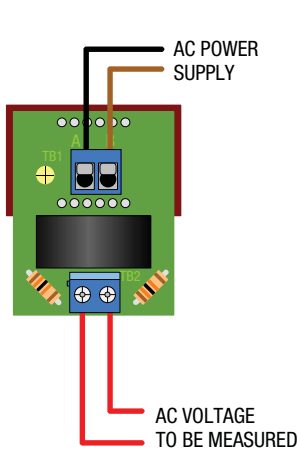
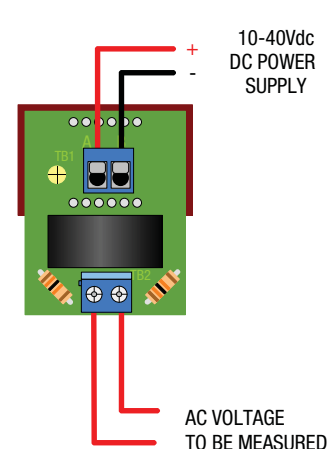

Figure 1A.
Figure 2.
- 3. Power Supply Polarity, Fusing, and Grounding:** As shown in Figures 1A and 1B, the two power supply inputs, TB1-A and TB1-B, on ac-powered DMS-20RM voltmeters ("-AC1" suffix) are not polarity sensitive, that is, they have no "AC LO" or "AC HI" designations. Also, ac-powered models do not include or require a connection to earth/chassis ground. DC-powered models ('-DC2' suffix) are reverse-polarity protected, and must be connected as shown in Figure 2 for proper operation.